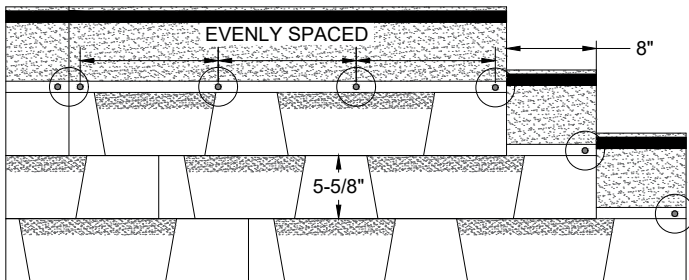

Figure 9 - Laminate, 4-Nail Fastening Pattern
Laminate Nailing Pattern: Under normal conditions, use four (4) fasteners for each full shingle. Fasteners must be placed in the nailing area approximately 1" (25 mm) in from each edge and the remaining fasteners evenly spaced between. Malarkey laminate shingles feature The Zone®, an enlarged, 1⁵/₁₆" (33 mm) wide nailing area that helps ensure correct fastener placement. (See Figure 9)